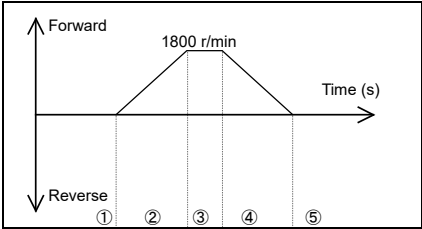

Figure 7.1 Operation Pattern
(44) Example of operation pattern
Figure 7.1 shows an example of an inverter’s operation pattern. To drive the inverter according to this operation pattern, the communication data should be as shown in item (2) below.